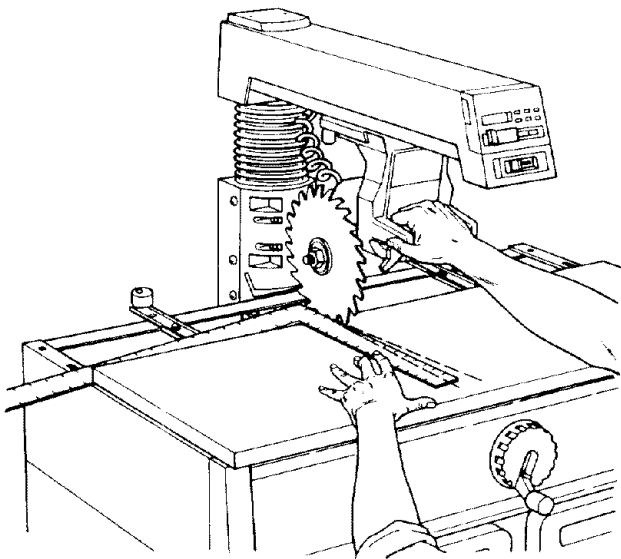

Fig. 105
8. Lay a framing square on the *front table* with the long edge along the back of the *table* and the short edge alongside the *blade*. (Figure 105)
9. Move the framing square toward the *blade* until a tooth of the *blade* just touches the edge of the square. (Figure 105)
**If** the marked tooth moves away from the square or tries to "walk" on top of it, go to step 13. (Figure 105)